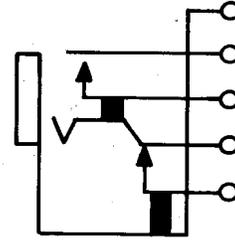

Fig. 7—225-Type Jack
2.07 225A, C and CE: These single-mounted jacks (Fig. 7) are used with the 1D, 1E, 153, 209, 241, 305, 327, 328, 347, 374, and 464 plugs. These jacks are heavily insulated. These jacks are mounted with the springs in a vertical plane. The terminals of all springs are arranged to accommodate two No. 16B and S gauge wires.